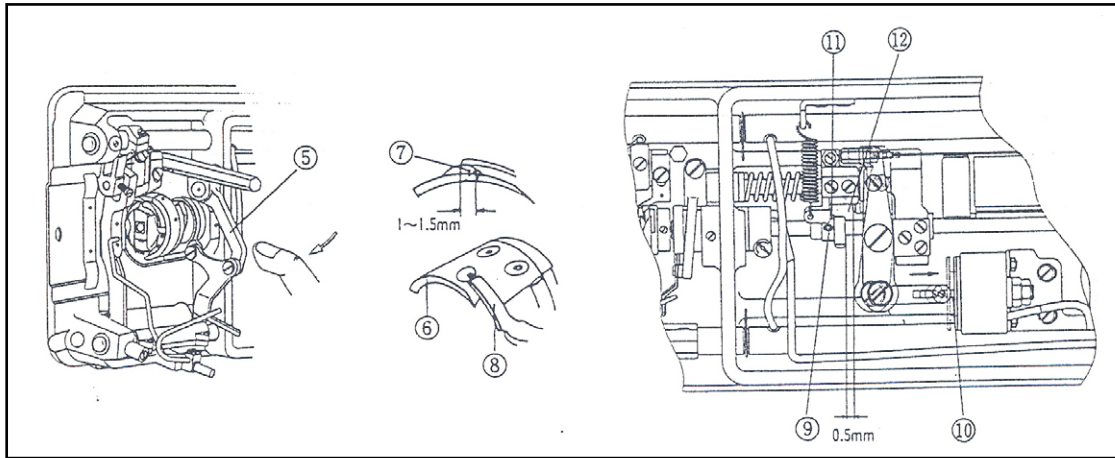

Figure 7.15
- C. Referring to Fig. 7.15, push trimming blade '6' up until fixed knife '8' is 1-1.5 mm onto mound '7.'
- D. Referring to Fig. 7.15, push thread trimming solenoid '10' in with screw '9' of the thread trimming cam slackened. The distance between trimming cam '11' and roller screw '12' is 0.5 mm.